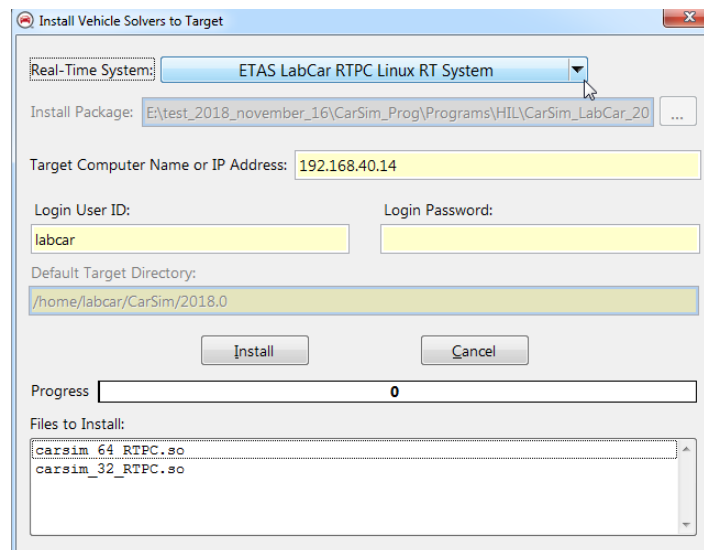

Figure 3. Install VS RT solvers to LabCar RT system target.
3. Select **ETAS RTPC Linux RT System** from the **Real-Time System** pull down menu. The solver installation package location is automatically detected (Figure 3).